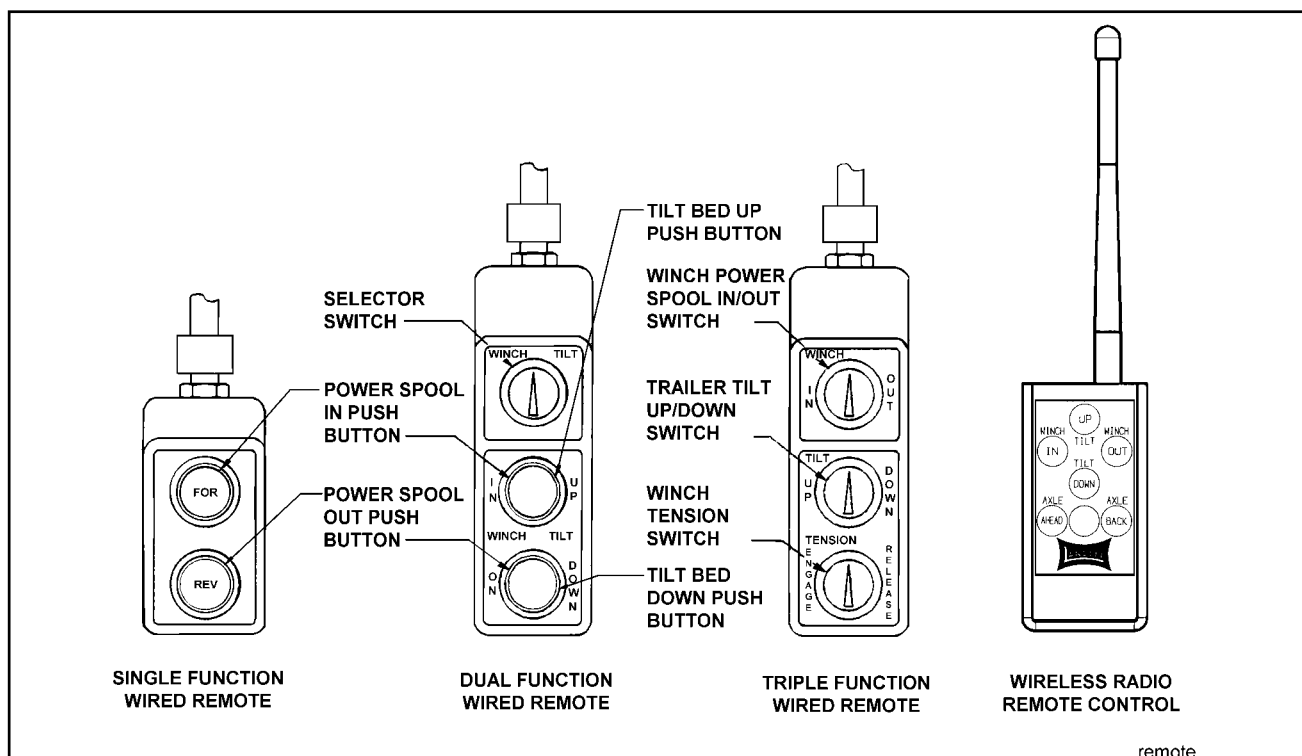

Figure 3-9 Examples of Remote Options
- 3-14.2** A wireless radio remote control is also available in triple function (See Figure 3-9).